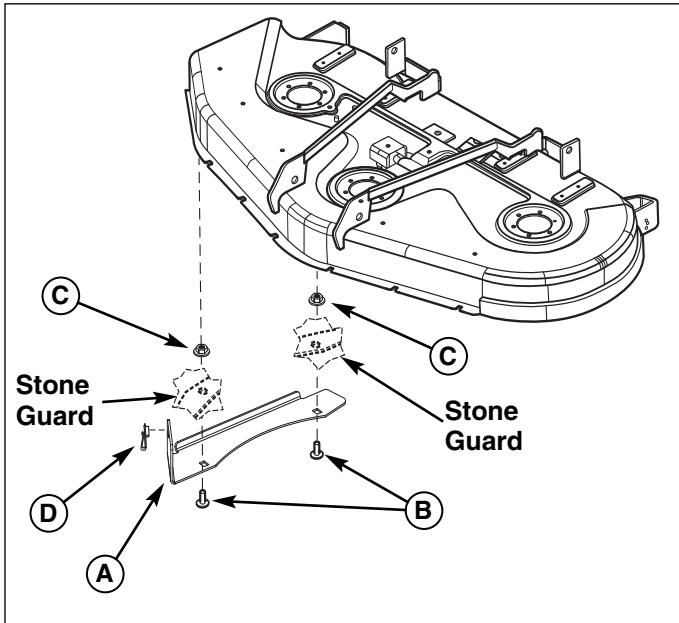
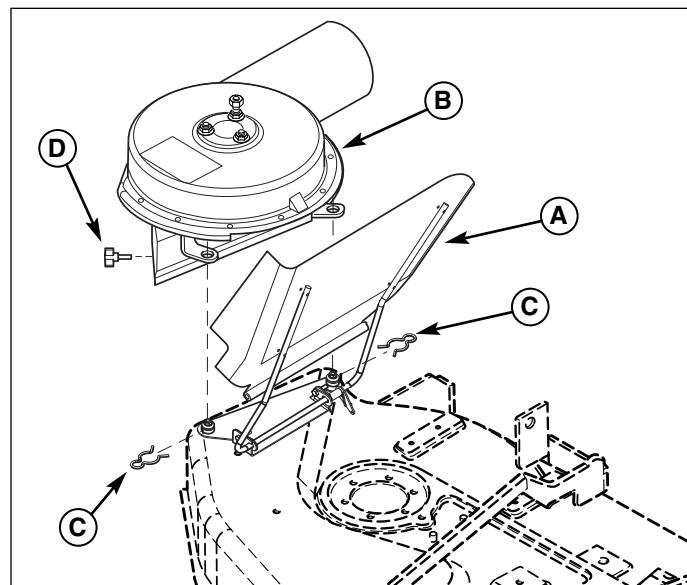

Figure 2. Install Hook Plate
Figure 4. Install Turbo Blower Assembly
2. Install the hook plate (A, Figure 2) below the stone guard (located at the bottom of the discharge opening) using two carriage bolts (B) and flange locknuts (C). Install bolts from the bottom up.
3. Install retainer nut (D) on hook plate.
1. Pivot the deflector (A, Figure 4) up and out of the way.
2. Install the turbo blower assembly (B) over the tapered spacers. Turbo should hook the bottom hook plate.
3. Install one spring clip (C) on tapered spacers at the front and rear of hinge to hold in place.
4. Secure turbo blower on hook plate (A, Figure 2) using plastic knob (D, Figure 4).
1. Remove the plastic knob (D, Figure 4) that secures the turbo blower to the hook plate.
3. Remove spring clips (C, Figure 4) from tapered spacers (C, Figure 3) at the front and rear of hinge.
4. Remove the turbo blower assembly (A, Figure 4) from the mower deck.